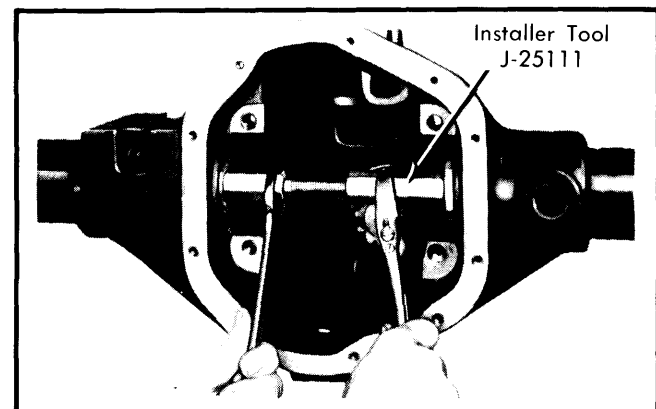

Fig. 8 Correct Procedure for Installing Inner Oil Seals
5) Front axles only: Check seals in axle housing bores. If condition is questionable, replace using suitable installer tool. See Fig. 8.